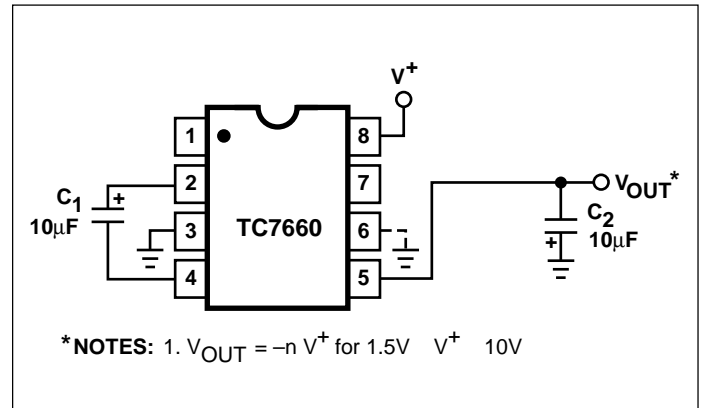
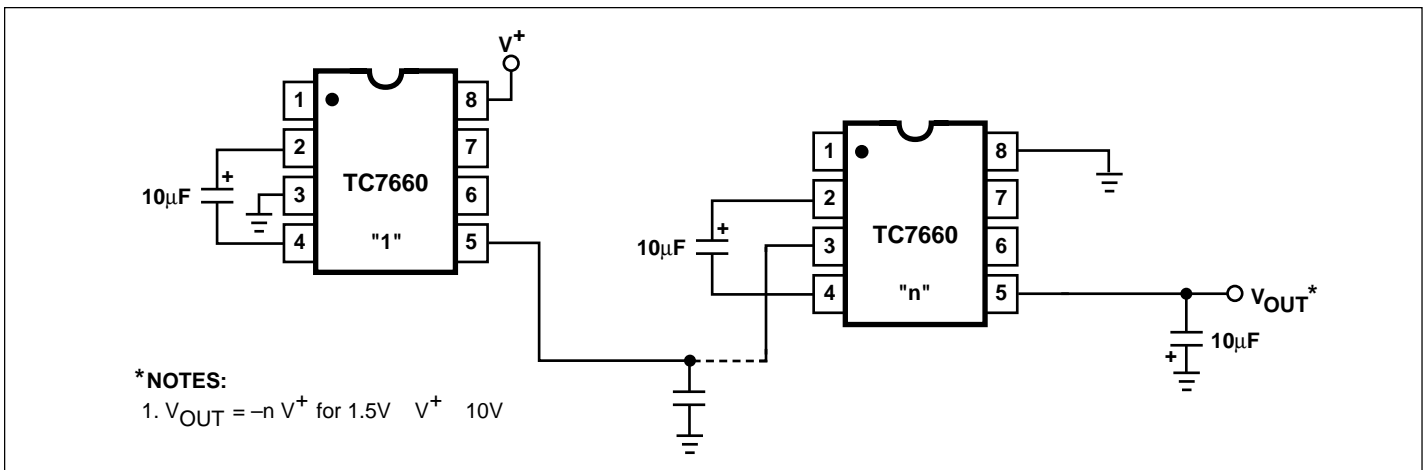
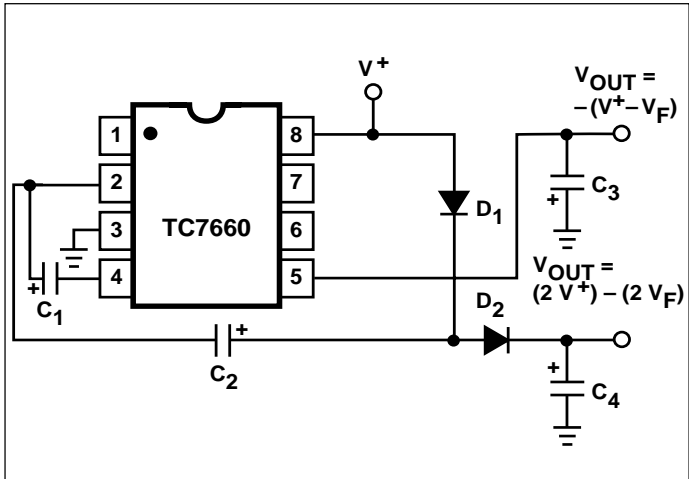
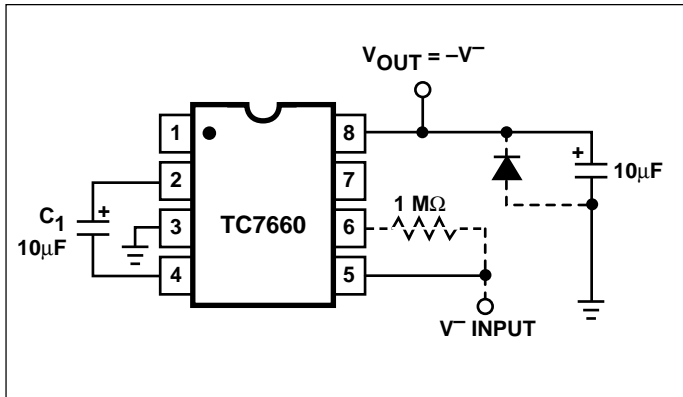

Figure 3. Simple Negative Converter
Figure 5. Increased Output Voltage by Cascading Devices
Figure 9. Combined Negative Converter and Positive Multiplier
Figure 10. Positive Voltage Conversion
Figure 3 shows typical connections to provide a negative supply where a positive supply is available. A similar scheme may be employed for supply voltages anywhere in the operating range of +1.5V to +10V, keeping in mind that pin 6 (LV) is tied to the supply negative (GND) only for supply voltages below 3.5V.
The output characteristics of the circuit in Figure 3 are those of a nearly ideal voltage source in series with  $70\Omega$ . Thus, for a load current of  $-10\text{mA}$  and a supply voltage of +5V, the output voltage would be  $-4.3\text{V}$ .
Figure 9 combines the functions shown in Figures 3 and 8 to provide negative voltage conversion and positive voltage multiplication simultaneously. This approach would be, for example, suitable for generating +9V and -5V from an existing +5V supply. In this instance, capacitors  $C_1$  and  $C_3$  perform the pump and reservoir functions, respectively, for the generation of the negative voltage, while capacitors  $C_2$  and  $C_4$  are pump and reservoir, respectively, for the multiplied positive voltage. There is a penalty in this configuration which combines both functions, however, in that the source impedances of the generated supplies will be somewhat higher due to the finite impedance of the common charge pump driver at pin 2 of the device.
Since the switches that allow the charge pumping operation are bidirectional, the charge transfer can be performed backwards as easily as forwards. Figure 10 shows a TC7660 transforming -5V to +5V (or +5V to +10V, etc.). The only problem here is that the internal clock and switch-drive section will not operate until some positive voltage has been generated. An initial inefficient pump, as shown in Figure 9, could be used to start this circuit up, after which it will bypass the other ( $D_1$  and  $D_2$  in Figure 9 would never turn on), or else the diode and resistor shown dotted in Figure 10 can be used to "force" the internal regulator on.
The same bidirectional characteristics used in Figure 10 can also be used to split a higher supply in half, as shown in Figure 11. The combined load will be evenly shared between the two sides. Once again, a high value resistor to the LV pin ensures start-up. Because the switches share the load in parallel, the output impedance is much lower than in the standard circuits, and higher currents can be drawn from the device. By using this circuit, and then the circuit of Figure 5, +15V can be converted (via +7.5V and -7.5V) to a nominal -15V, though with rather high series resistance (~250Ω).